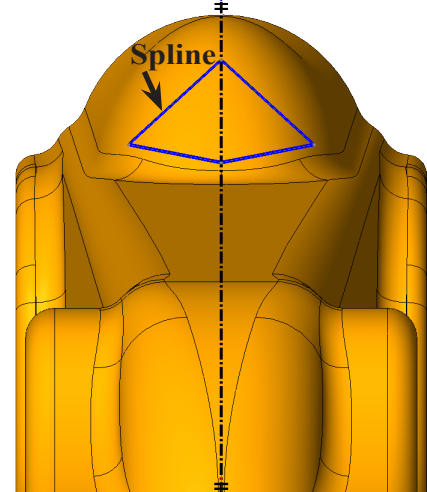

Fig. 142
Step 11. Draw **two point** spline between end of first spline and centerline above first spline, **Fig. 142**. **Right click drawing and click Select** from menu to end spline.